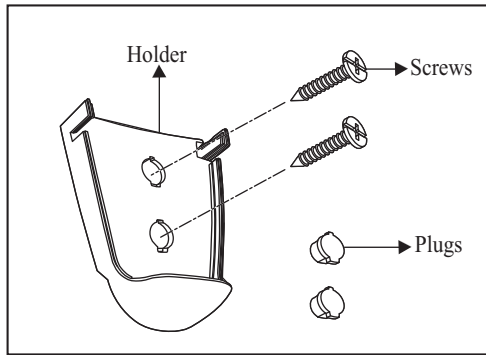

Figure 22
1. Remove the two plugs from the holder. Note that the plugs have unique tabs that allows them to fit only in one hole. (Fig. 22)